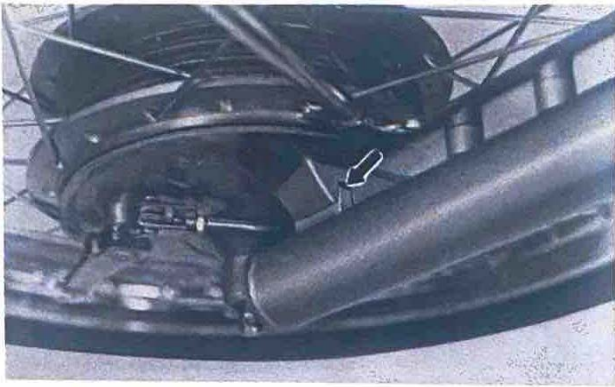

Fig. 23
- (1) Insert the front wheel between the front fork legs so that the stopper (projection) on the front fork outer tube correctly engages the slot in the brake shoe plate. (Fig. 23)
- (2) Insert the axle, mount the plain washer on the axle, and install the axle nut.